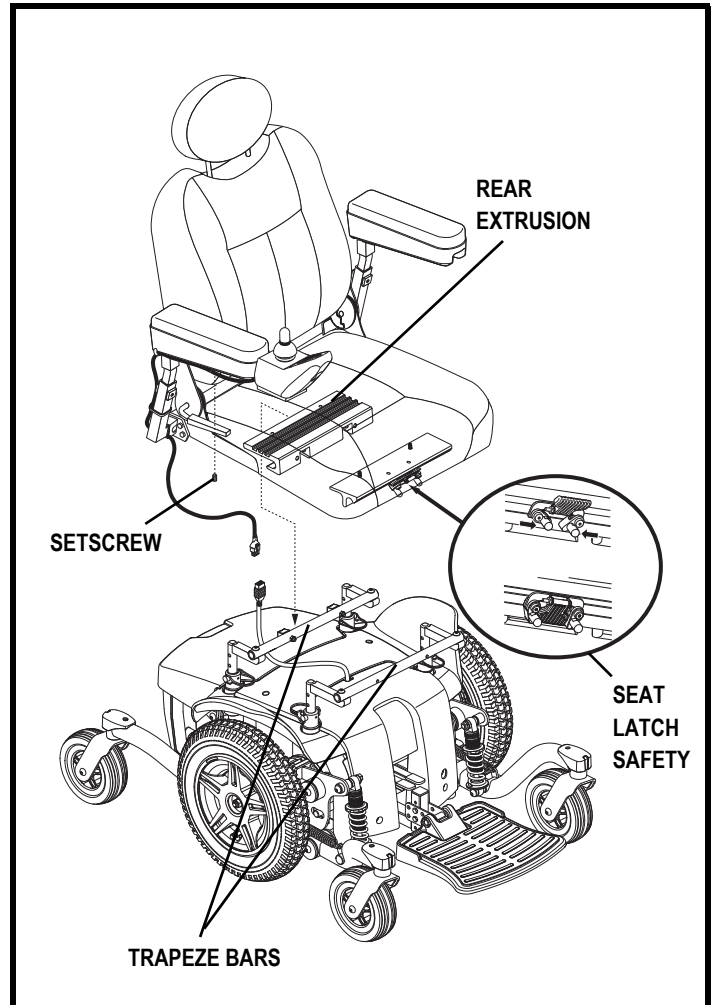

Figure 11. Universal Mounting System
It may be necessary to install the seat either prior to initial operation or after transporting your power chair. Most seats are attached to the power base with the Universal Mounting System (UMS). The UMS consists of universal parts that may be attached to any medium-back or high-back seat, regardless of seat width or seat depth. The two main components are aluminum extrusions mounted to the seat base. These extrusions attach to a pair of trapeze bars that are mounted to the power base. See figure 11.
1. Tilt the seat back and slide the rear extrusion onto the rear trapeze bar. See figure 11.
4. Install the controller into one of the armrests. Tighten the setscrew. See figure 11.
5. Lift the armrest straight up, then route the controller harness so that it cannot be pinched in the seat hinge as shown in figure 11.
15. Lift the armrest straight up, then route the controller harness so that it can not be pinched in the seat hinge. See figure 11.
7. Lift the armrest straight up, then route the controller harness so that it can not be pinched in the seat hinge. See figure 11.